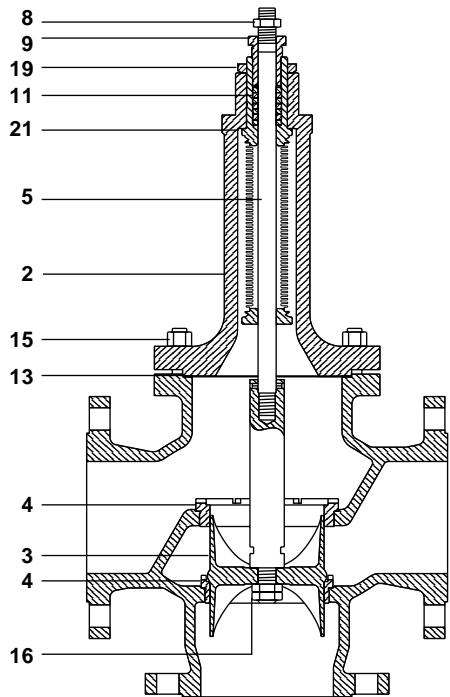

Fig. 10 Mixing valve
4.3.2 Procedure for renewing the valve plug, seats and bellows assembly on mixing valves (Refer to Figure 10):